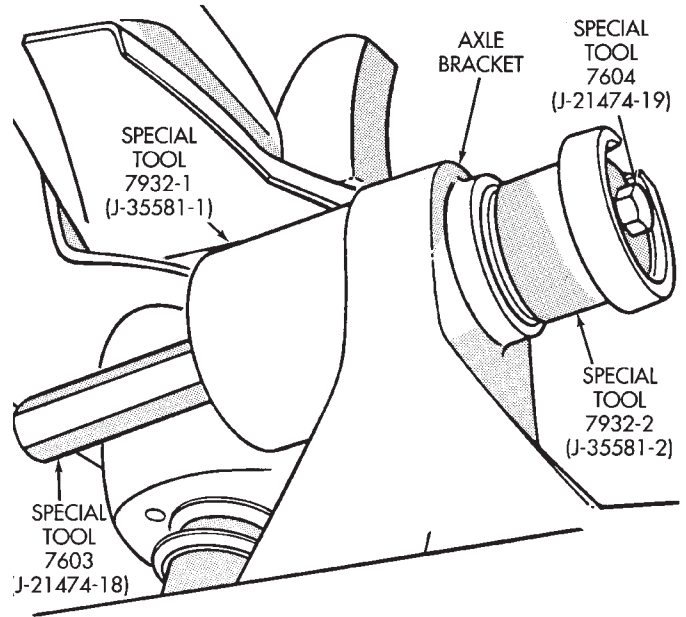

Fig. 5 Bushing Removal
- (1) Remove the upper suspension arm from axle
- (2) Position Receiver 7932-1 (J-35581-1) over the bushing in the axle and install Bushing Removal/Installer (Fig. 5).
- (3) Remove the bushing by tightening the Long Nut.